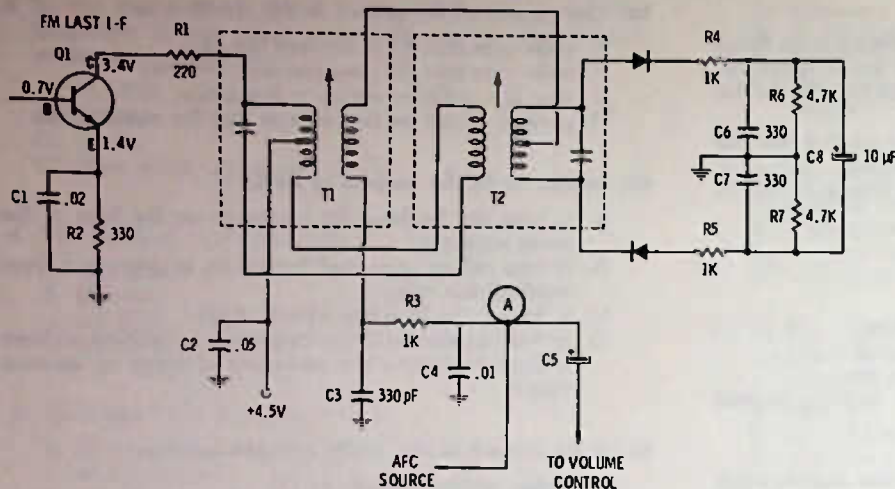

Fig. 13-22. Circuit for Questions 26, 27, and 28.
26. Fig. 13-22 is an fm demodulator circuit. In setting up (aligning) an fm amplifier, a meter is connected between point (A) and ground, and T2 is adjusted for zero voltage output, while feeding a 10.7 MHz (or whatever i-f is used) into the earlier stages of the i-f amplifier strip. The voltage at point (A) should also be at zero, when a station is tuned in correctly, and should swing positive and negative as you tune through the station signal. T1 and previous i-f transformers should be tuned to maximum, with the meter connected across the 10- μ F capacitor C8. R3 and C4 in this circuit make up the "de-emphasis" filter, which removes the higher frequencies previously emphasized in the fm transmitter. Pre-emphasis of the high frequencies makes it easier to remove high-frequency noise, while still maintaining a flat response for the audio. In the circuit shown, approximately how much current is Q1 drawing?
27. The circuit in Fig. 13-22 is a
28. The afc voltage at point (A)